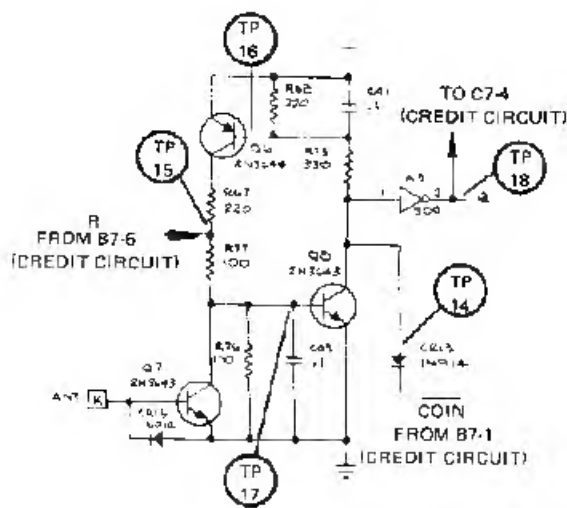

Figure 2-3. The Electronic Latch
**2-14.** The electronic latch permits the starting of a new game when the coin is deposited and prevents the start of a game if the player attempts to obtain free game credit by inducing a static charge in the machine. See Figure 2-3 for the following discussion.
2-22. However, if a coin is deposited, both A7 flip-flops are enabled, and when both of the Q outputs are high, pin 3 of AND gate A6 will also go high. This produces a low at pin 10 of inverter B6 which clears both B7 flip-flops. If the 1P/2P switch (1 play or 2 plays per coin) is set to the 1P mode, the preset input (pin 10) of B7 is held low and when COIN returns high, a high will appear at the Q output (pin 9) of B7. However, if the switch is set to the 2P position, when COIN goes low, the Q output (B7-9) will go low and stay low until the high at the D input (B7-12) is clocked through by the ATRC signal. A low also appears at the Q output (B7-6) which is inverted at B6-2 and lights the credit LED. The same signal which cleared the B7 flip-flops (COIN) also drags the collector of transistor Q8 low and turns on the electronic latch (see Figure 2-3) which enables the attract flip-flop C7 at pin 4. Since the credit lamp must be lighted to enable gate C6, and since C6 enables the start flip-flop C7, the game cannot be started unless the credit lamp is lighted.